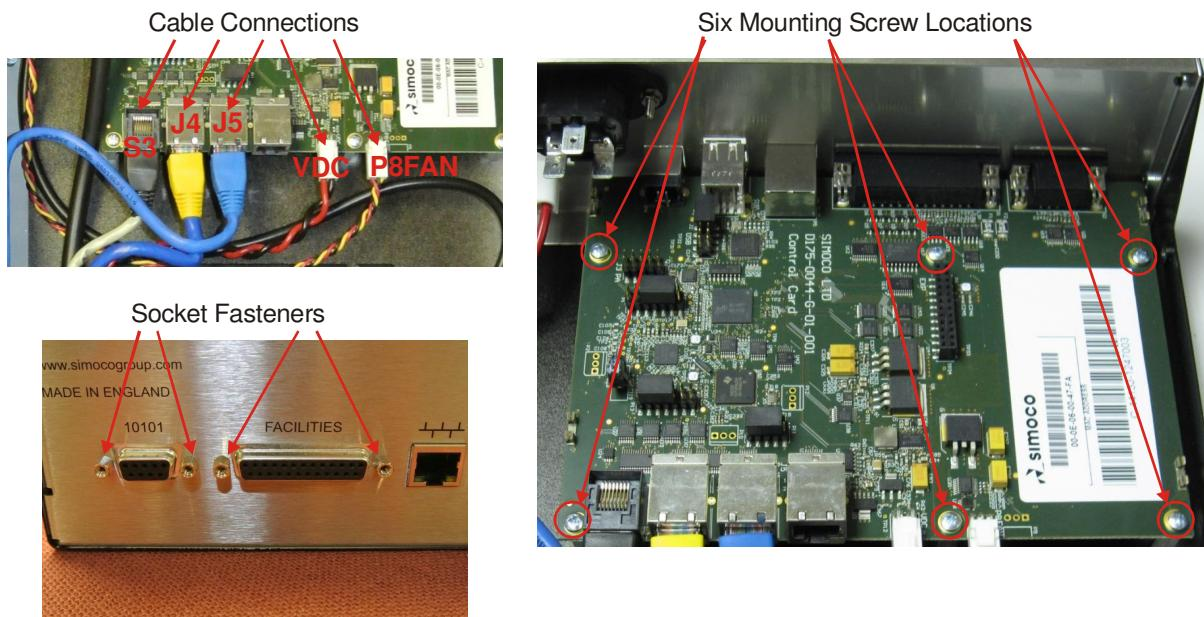

Figure 13. Removing the Control Board.
- On the Control Board, referring to **Figure 13** overleaf, carry out the following: